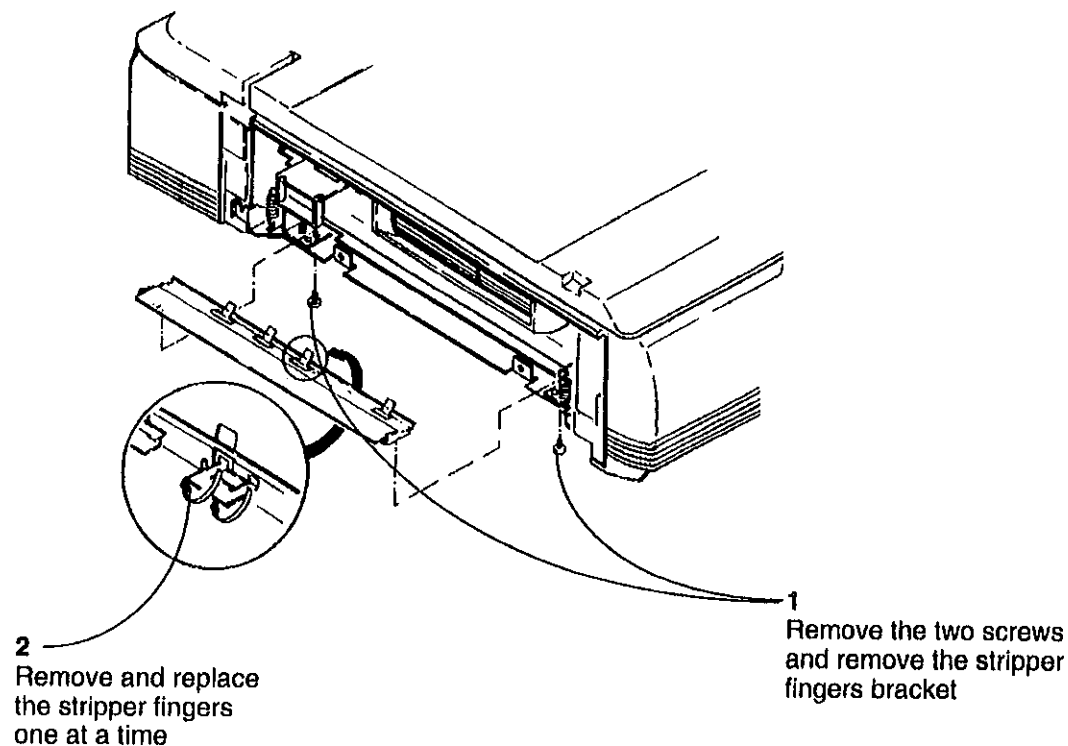

Figure 1. Removing the Stripper Fingers
- 2 (Figure 1) Remove the stripper fingers